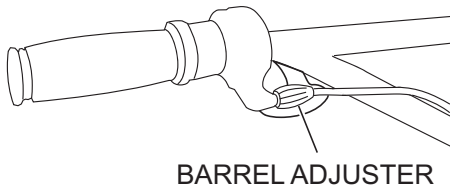

Figure 10. Barrel Adjuster
6. Adjust cable tension by rotating the barrel adjuster. (Figure 10)